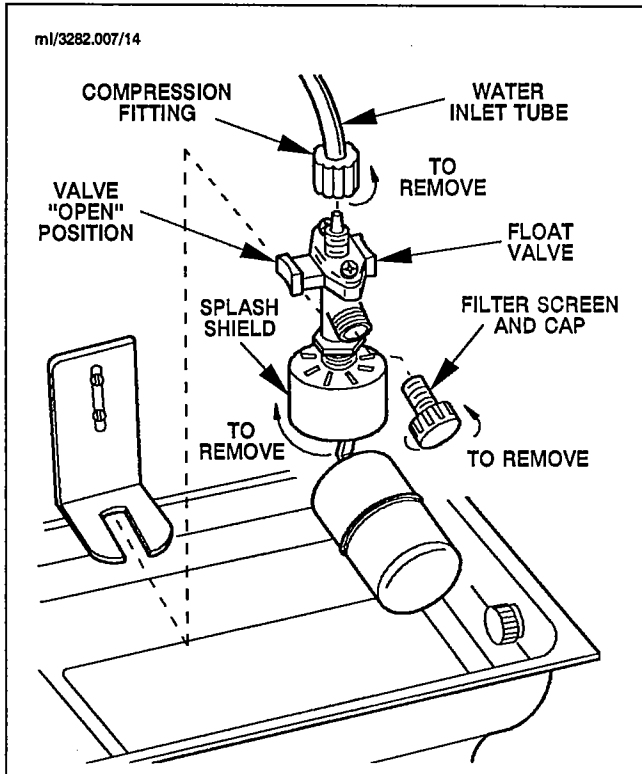

FIGURE 12. FLOAT VALVE REMOVAL
Remove Float Valve (Figure 12)
1. Turn on water to ice machine at water service valve and ensure float valve is open, Figure 12.
6. Shut off water at float valve. See Figure 12.